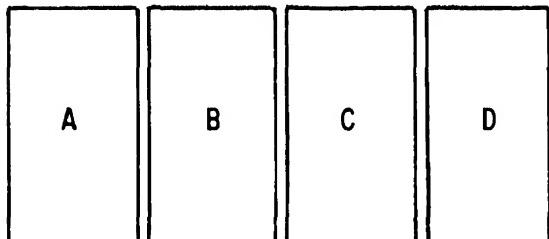

Figure 4C.--Film processing trays.
- In answering question 4-48, refer to figure 4C.